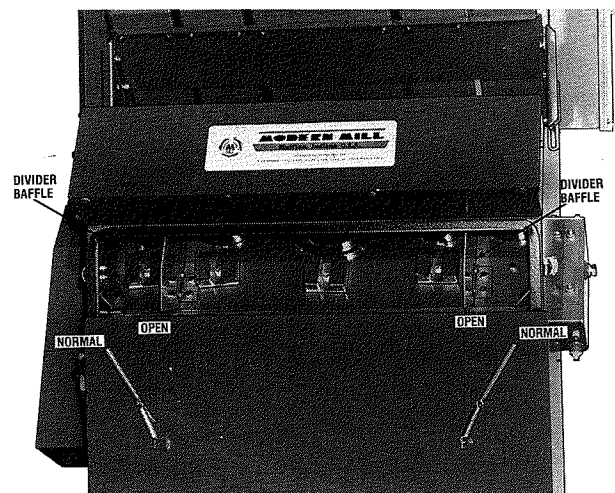

FIGURE 14
|   | I. BY-PASS VALVES (FIGURE 14)  |
Two handles in the mill back control by-pass valves which are used to divert abrasive ingredients around the grinding chamber. Two factory installed aluminum divider baffles and angles, located in the metering compartment, are also part of the by-pass feature, Figure 14.
1. To establish POUNDS PER COUNT, install the sample chute under the discharge end of the metering augers. (Remove aluminum divider baffles and angles, Figure 14.)